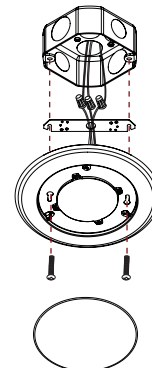

Figure 3
4. Mount luminaire to the junction box using the provided bracket (NLOPAC-4BKT-2), lock washers and screws through the keyhole slots. (Figure 3)